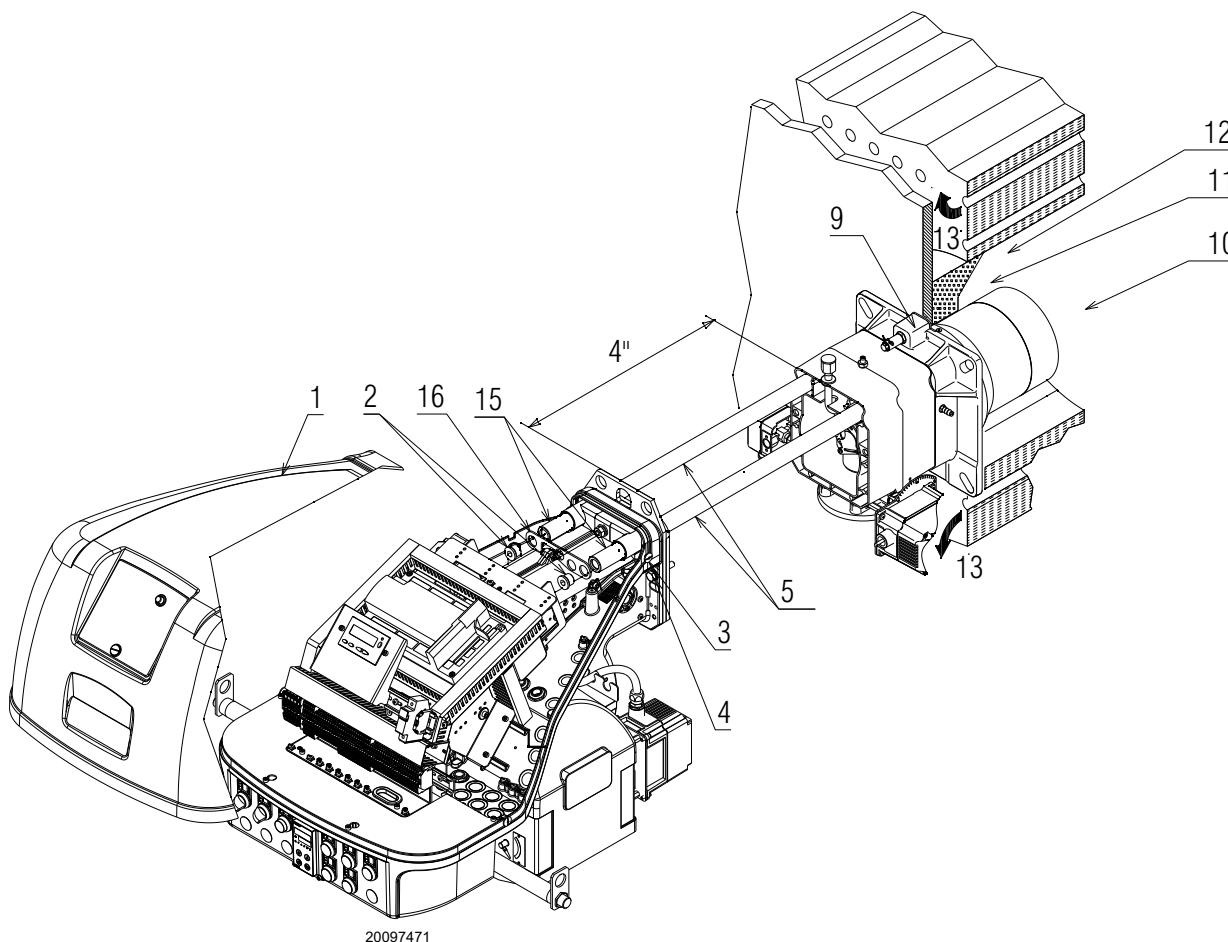

Fig. 11
- For boilers with front flue passes 13)(Fig. 11) or flame inversion chambers, a protection in refractory material 11) must be inserted between the boiler refractory 12) and the blast tube 10). This protection must not compromise the extraction of the blast tube.
- For boilers with a water-cooled frontal, a refractory lining is not necessary 11)-12) (Fig. 11) unless expressly requested by the boiler manufacturer.
Secure the burner to the boiler, fixing the flange 9)(Fig. 11) to the boiler plate and interposing the insulating gasket 8).
Detach the combustion head from the burner, (Fig. 11):
- install the extension bars 15) Fig. 11, page 18 and re-screw the screws 2) including the safety plate 16);